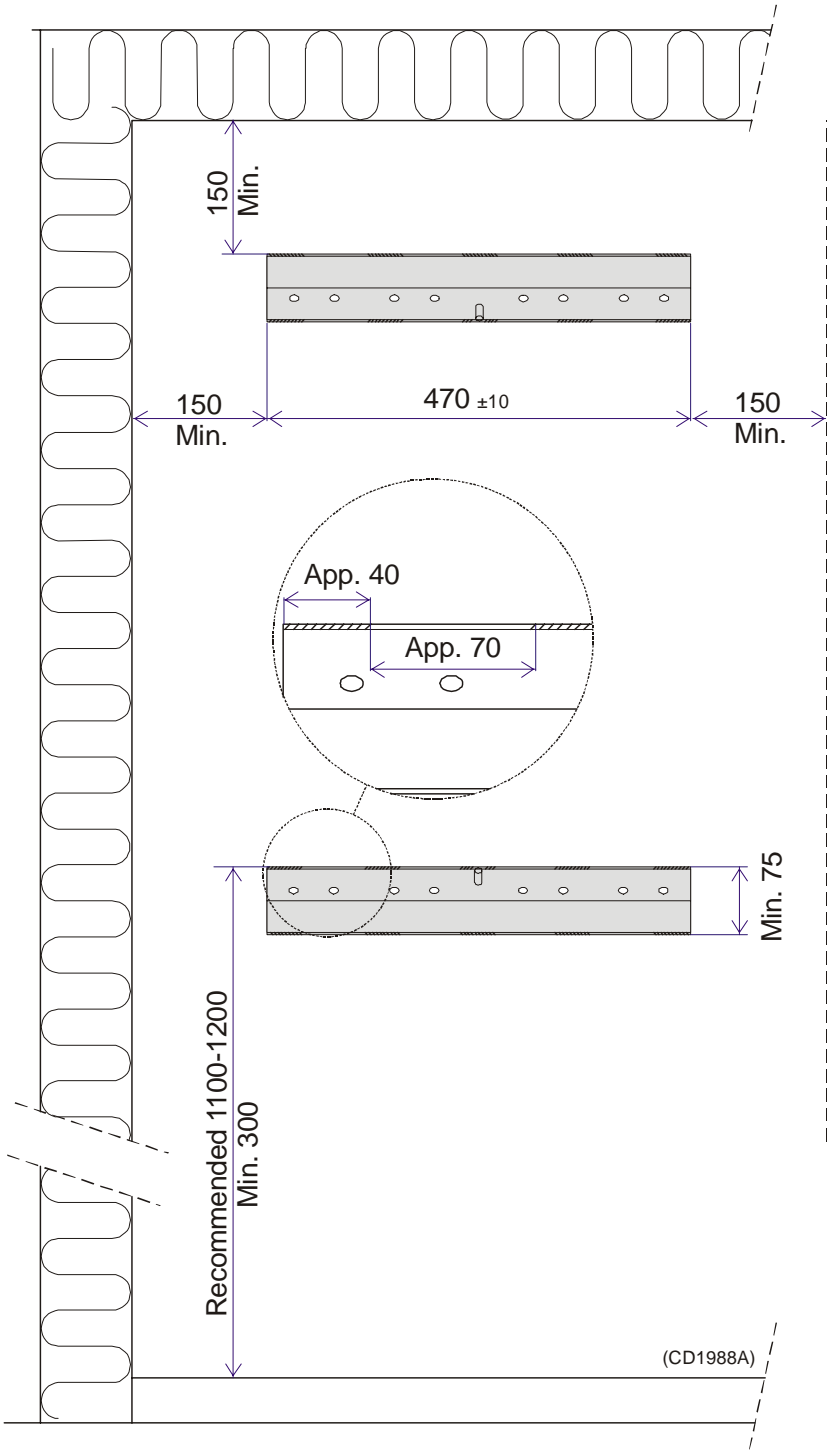

Figure 8 Mounting the brackets for the Transceiver Unit - Forward view
The Transceiver Unit cabinet requires a minimum free bulkhead space, which is shown in figures 8 and 9.
- ☐ **2** Weld the mounting brackets safely to the bulkhead as shown in figures 8 and 9.